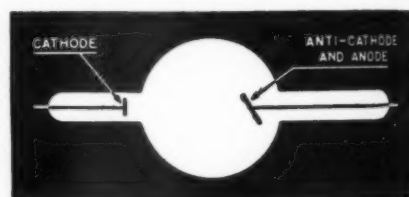

Fig. 2. X-ray tube as it appeared three years after the discovery of X-ray's.
**I**N 1895, William Conrad Roentgen, while studying electrical discharges in a gas-filled tube such as is shown in Fig. 3, observed that barium platinocyanide placed in the neighborhood of the tube glowed even though the tube itself was wrapped in black paper. Continuing his studies of this phenomenon, he found that the radiation given off by this tube would affect photographic plates and would penetrate aluminum, wood and flesh. The radiation produced by these tubes was called X-rays by Roentgen because of their unknown nature. The radiation in Roentgen's tubes came from the glass walls of the tube itself. The process of the development of the X-ray tube was very rapid because it was seen that the medical profession could put it to immediate use. Three years after Roentgen made his first observation, the metal target was added to the tube. The tube as it appeared at this time is shown in Fig. 2. In this year, J. J. Thompson gave the explanation for the production of the continuous spectrum which will be given later. The X-ray tube remained essentially the same until 1913 when Coolidge introduced the hot cathode into the tube.